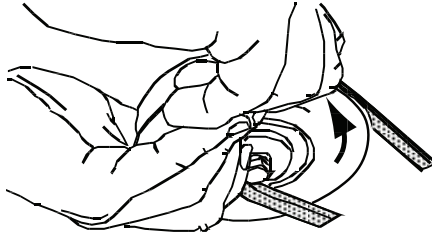

Figure 4-20
9. Pull the right side of the belt and place the narrow V side of the belt into the PTO pulley. See Figure 4-20.